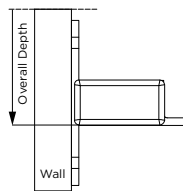

Fig. 2b
2. Identify the overall depth dimension of stall. Refer to layout drawing. Orient wall post according to the door swing. Place the wall post against the wall and position for required floor clearance. Make sure wall post is leveled. **Fig 2b.**